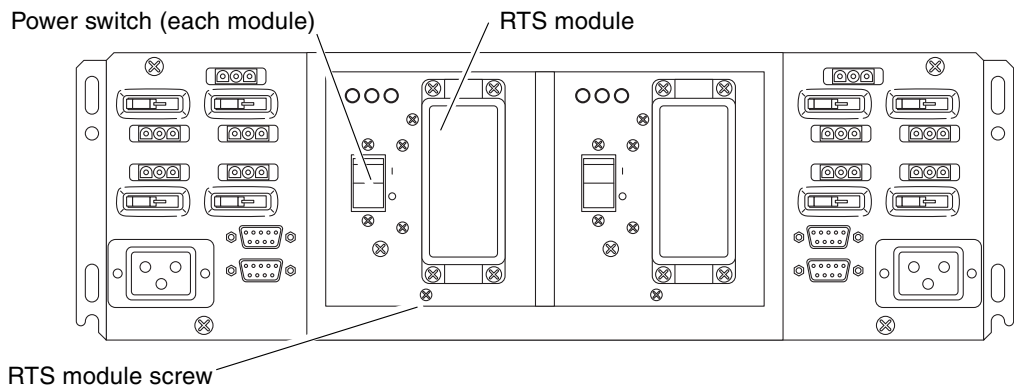

FIGURE 4-18 RTU Assembly
4. Power off the RTS module that is to be replaced (FIGURE 4-18).
6. Remove the four screws holding the RTU to the cabinet (FIGURE 4-18).